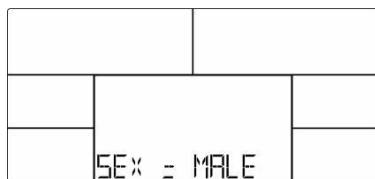

Fig. 21
2. Use the UP/DOWN buttons to set your SEX, AGE, HEIGHT and WEIGHT information and confirm each entry with the MODE button (Fig. 21).